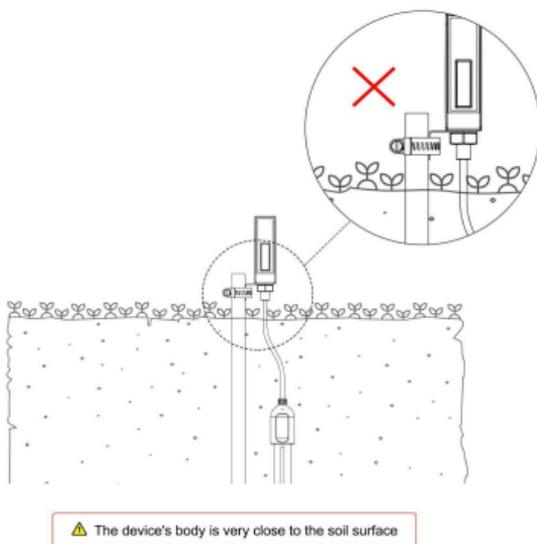

Figure 30 The device's body is very close to the soil surface
- ✘ The device's body is very close to the soil surface and the distance is less than 20cm, like the Figure 30.